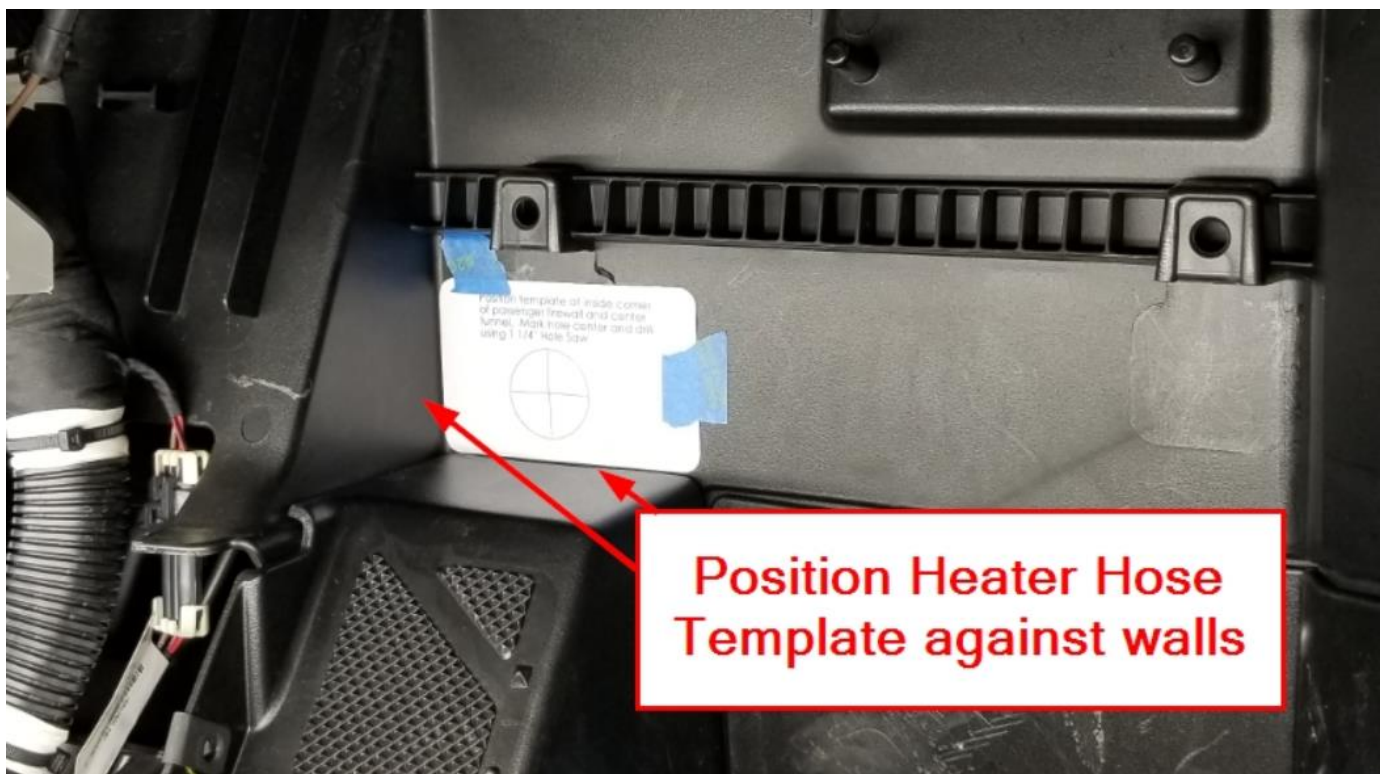

Figure 6
- f. Position the Heater Hose Template along the Passenger side firewall as shown in Figure 6. Transfer the hole center and drill using the 1 1/4" Hole Saw and Pilot Bit. Insert one of the 1 1/4" Rubber Grommets into the Firewall hole.